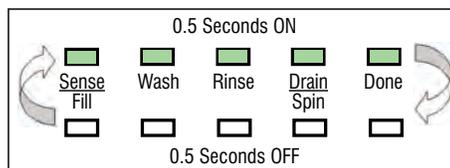

Figure 2 - Status LEDs flashing ON and OFF
- Turn cycle selector knob until the status LEDs flash ON and OFF (see figure 2, page 2-2).